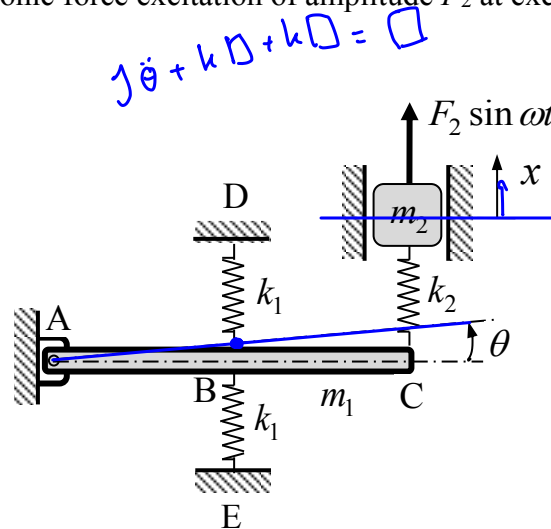

Figure 6
4. Figure 6 shows a 2-DOF vibrating system in its static equilibrium configuration. The system consists of a rigid beam ABC of length l and mass m_1 , pin-jointed at A and supported by two springs of same stiffness k_1 at the mid-section of the beam at B. The beam carries a spring-mass system of mass m_2 and spring stiffness k_2 at C. Mass m_2 is subjected to a harmonic force excitation of amplitude F_2 at excitation frequency ω .